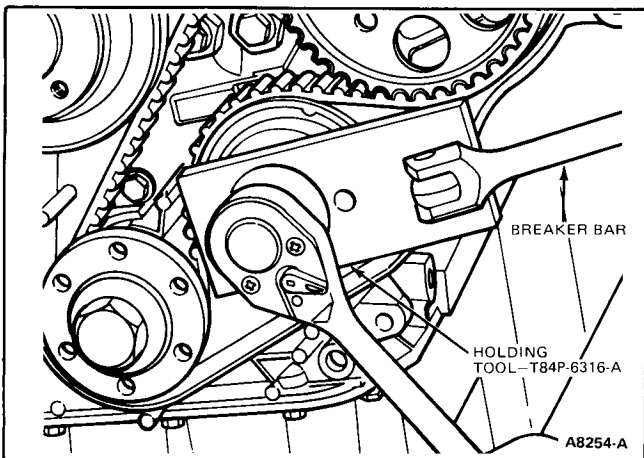

FIG. 38 Intermediate Shaft Sprocket Removal
9. Remove bolts attaching intermediate shaft sprocket using Holding Tool T84P-6316-A or equivalent (Fig. 38).